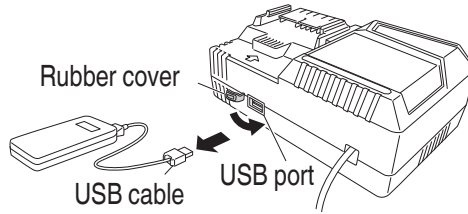

Fig. 19
- (3) When charging is completed
- Unplug the power cord from the electrical outlet. (Fig. 19)